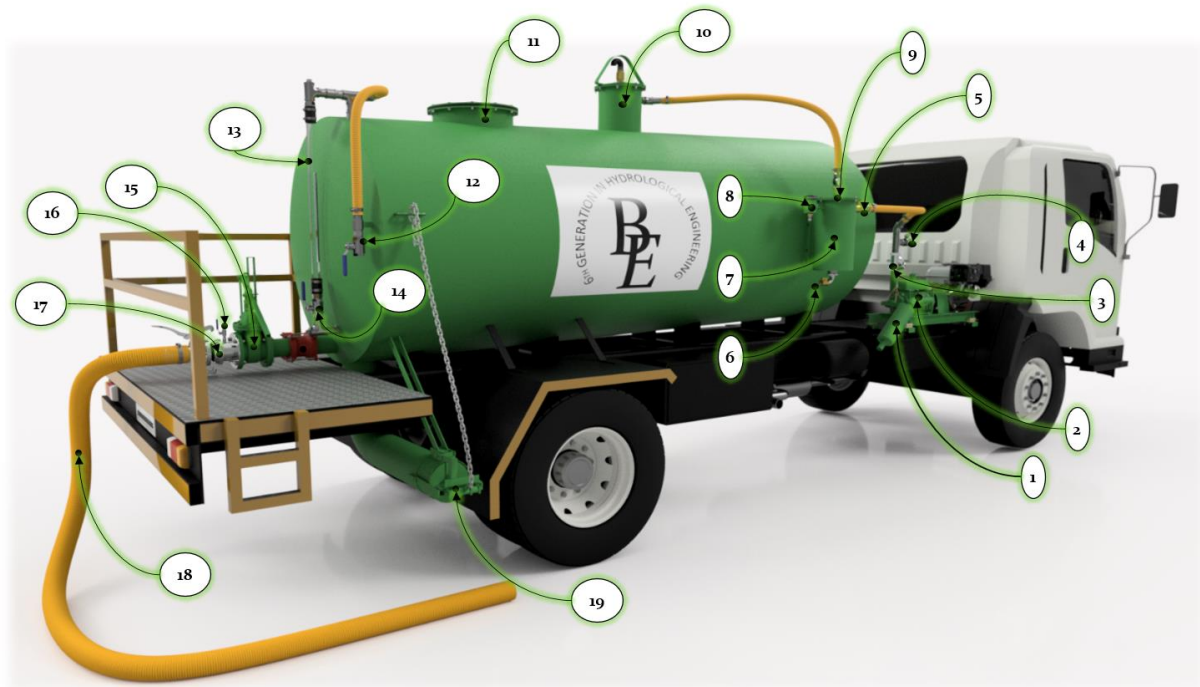

Figure 1: List of Components [1-19]
As discussed in step-5a, once the unloader ball valve has been closed following the pump drive is initiation, vacuum will rise in the tank. During this time, it is recommended that the operator unload the suction-hose and couple the hose to Item-17 indicated in Figure 1.
Step 1c: Unload suction hose and connect it to the Quick Coupler (Item-17) as seen in Figure 1. Ensure that suction hose vacuum breaker (Item-12) is closed.
Step 4c: Opening the vacuum breaker valve (Item 12) indicated in Figure 1. **Error! Reference source not found.** Once this valve is opened, atmospheric pressure will enter the effluent tank and the flow rate will be significantly increased.